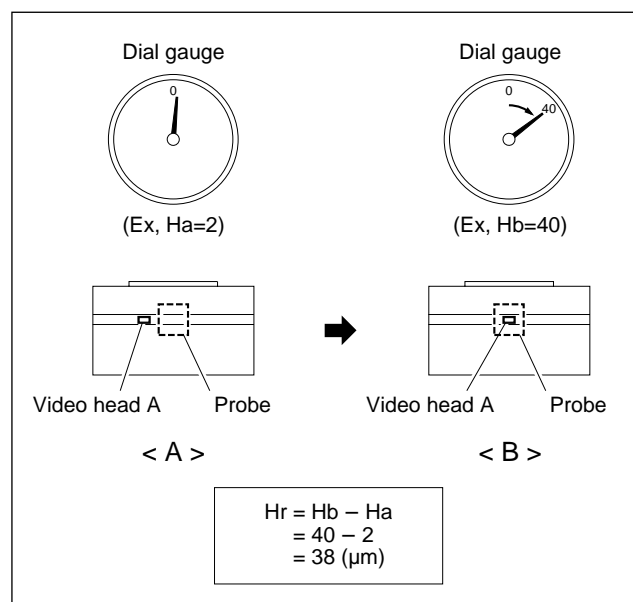

Figure 4. Example of Head Tip Protrusion Measurement
- Turn the upper drum manually counterclockwise (↺) very slowly to approach a video head aside of the probe. (Refer to <A> in Figure 4.)
- Turn the upper drum manually counterclockwise (↺) very slowly to center the video head in the probe. (Refer to  in Figure 4.)